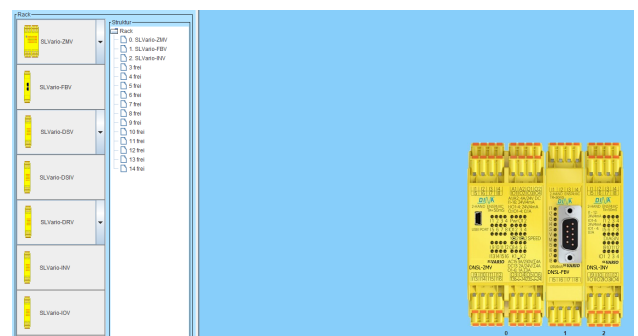

Fig. 2-5
- Drag the function modules to their slots in the same way. (Fig. 2-5)